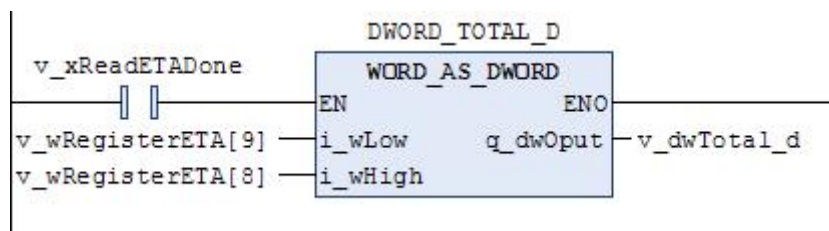

Figure F4-6
③Convert the read data into cumulative traffic, as shown in Figure F4-6, v_ dwTotal_ D is the integer part of the positive cumulative value: